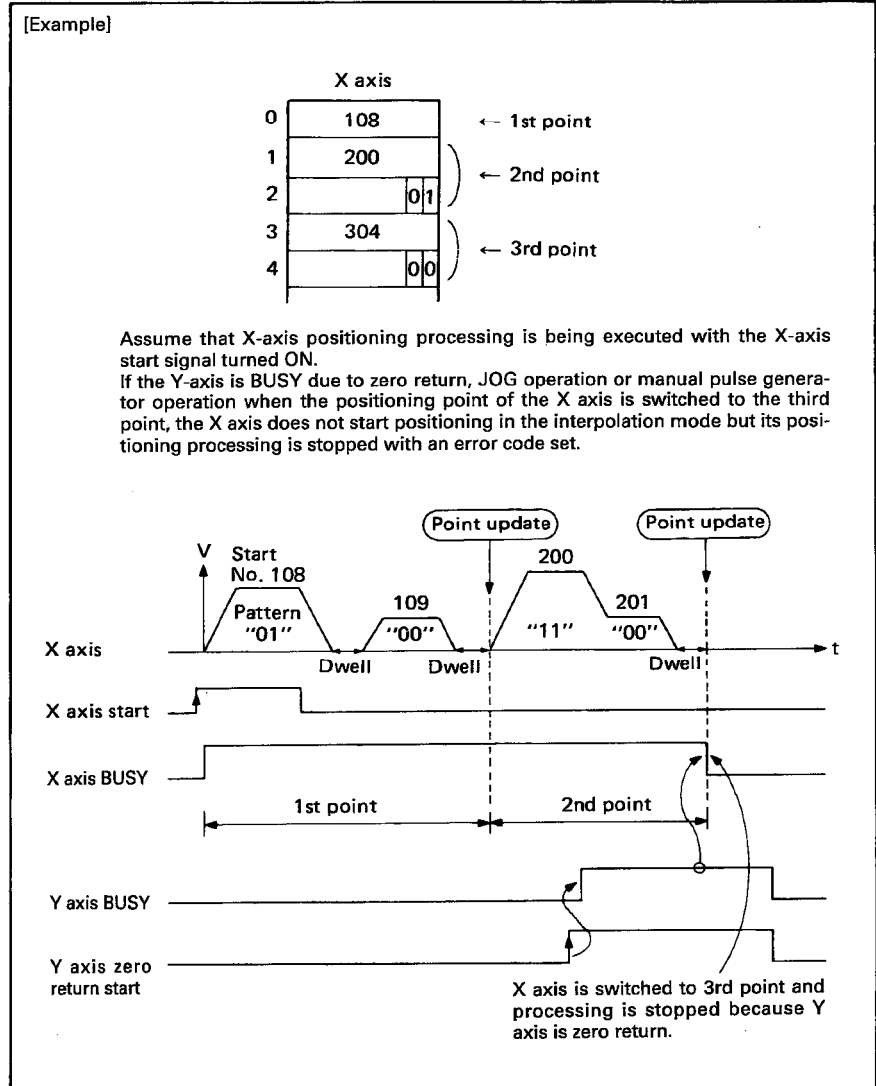

Fig. 3.34 Start Data Example 4
- 4) If the interpolation start (00) or both-axis start (11) is set for the start axis of either of the two axes, an error occurs and positioning processing of that axis is stopped if the mating axis is BUSY in other than positioning (See Fig. 3.34.).